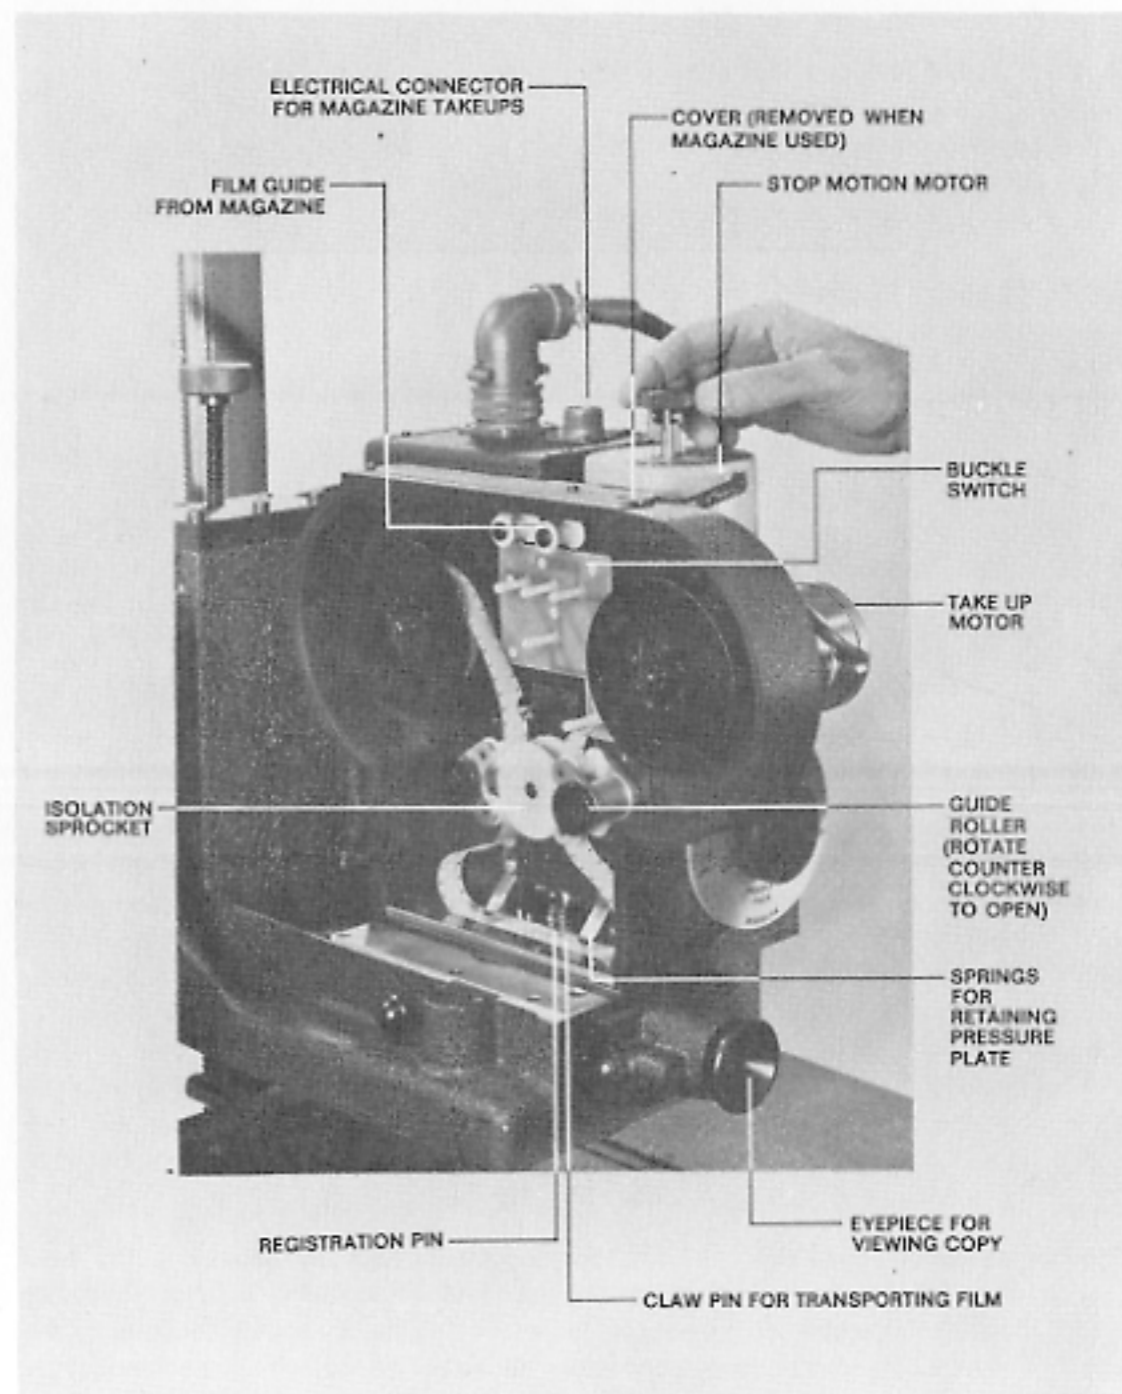

figure 5. Manually transporting film to check for proper threading. Power must be off when this is done.
- Fig. 5 Manually Transporting Film
e) Lift the spring mounting the registration pin with fingernail until enough clearance is made to slip the film under it. Release the spring and slip the film along the slot until the pin enters a sprocket hole: if necessary, rotate motor manually until claw pin is raised. (See Fig. 5).
1.1.3 Manual Film Transport: By rotating the knob located on top of the stop motion motor, the film will be transported and can be checked for proper threading. This can only be done with the power switch in the "OFF" position. (See Fig. 5).